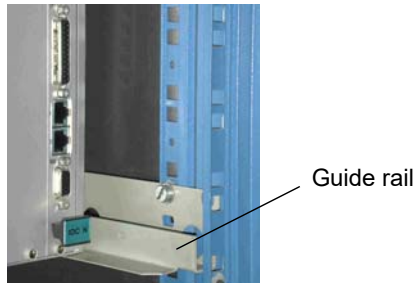

Figure 8-2: Cabinet guide rail
- **The support, cabinet or enclosure should be equipped with guide rails or equivalent in order to provide extra support to a VM600 rack. For example, see the guide rail in Figure 8-2.**